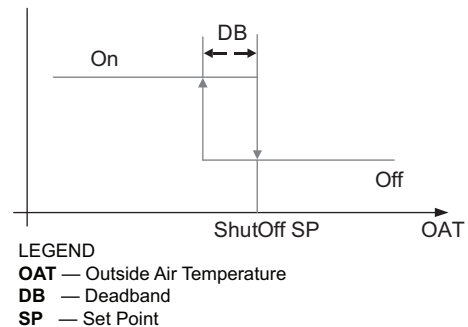

Fig. 53 — Hysteresis Settings
Hysteresis setting (DB) defaults to 2°F (–17°C). See Fig. 53.